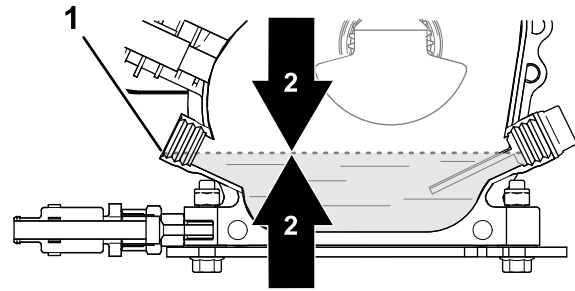

Figure 13
3. Check the oil level (Figure 13).